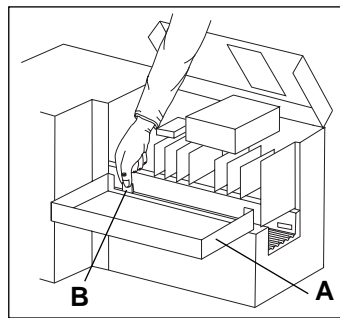

Figure 9.5
2. Lower the keypad face of the instrument (A) to loosen locking knobs inside (B) (Figure 9.5).